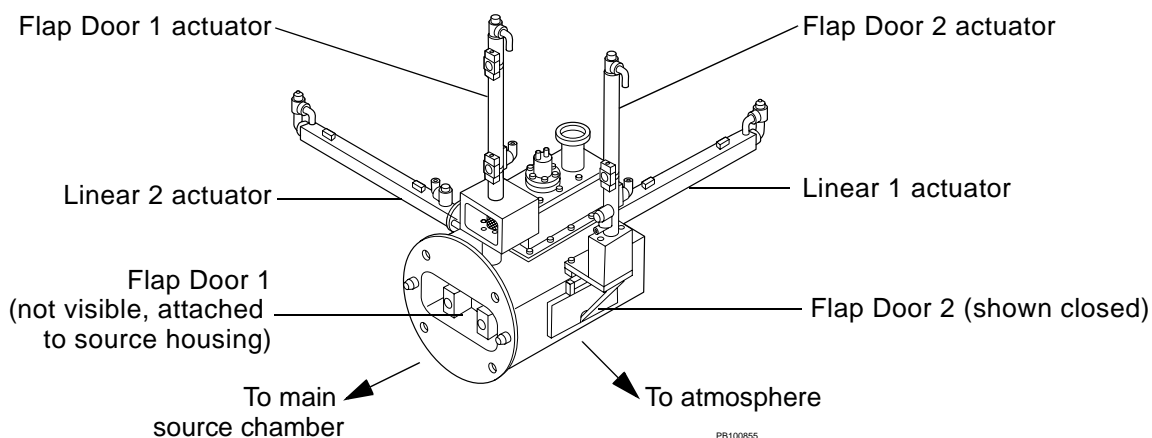

Figure 1-3 Voyager-DE STR Workstation Sample Loading Chamber
The sample loading chamber (Figure 1-3) transports the sample plate between vacuum chambers at various pressures.
- **Sample plate and sample stage**—The source of ions. The sample plate and sample stage (Figure 1-3 on page 1-7) are supplied with voltage (source, up to 25,000 V) for acceleration of ions into the flight tube.